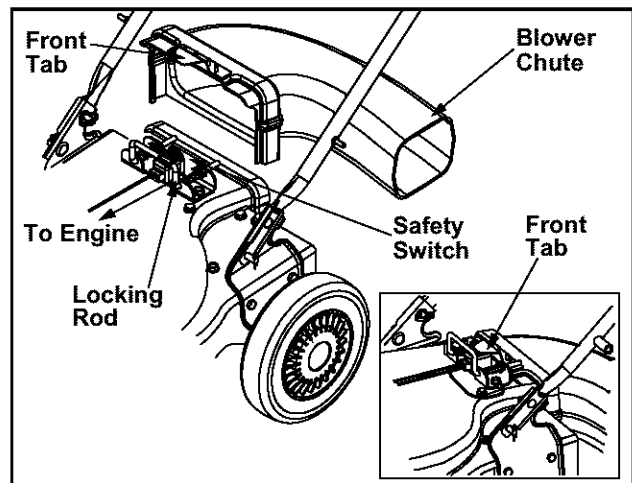

Figure 6
1. Grasp blower chute with one hand and pull locking rod with other hand toward engine, while slipping blower chute **over rim** of discharge opening. See Figure 6.
1. Grasp blower chute with one hand and pull lock rod on mounting bracket with other hand toward engine to release. See Figure 6.